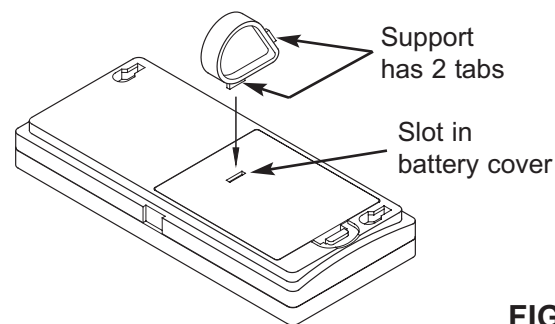

FIG. 88
1. Snap one of the support's two tabs into the rectangular slot on the back of the remote's case (See Figure 88).